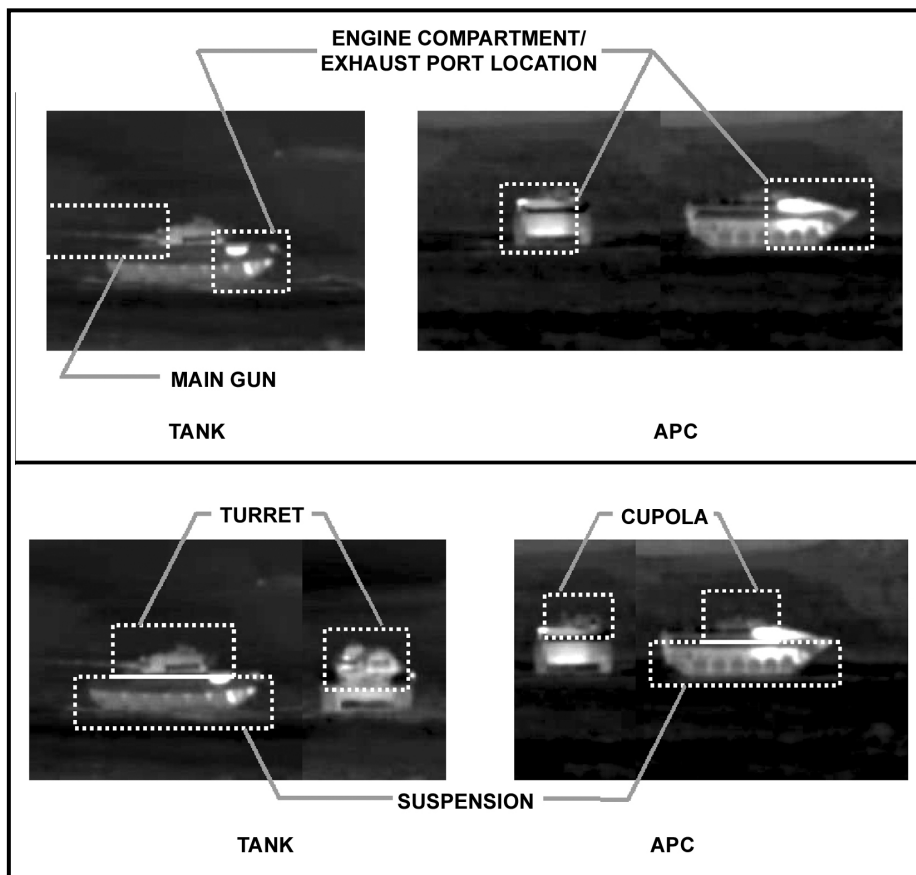

Figure C-43. Target recognition features
b. **Recognition Features.** The major differences between tanks and APCs are shown in Figure C-43 and Table C-1: